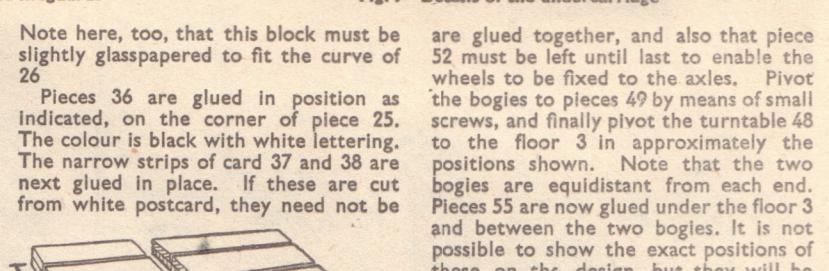

Fig. 8—The lifeguards
sketch. Small tape hinges are attached to pieces 43 which are hinged to the underside of piece 4. This allows the step to be up or down. It is shown up, in the finished sketch, but on the other side it will be down, to allow passengers to alight. Pieces 44 will be glued in place by means of small card strips (see Fig. 8) and they will be positioned on the opposite side to the step (43). The longer guards (42) will be glued similarly in place across the underside of piece 4.